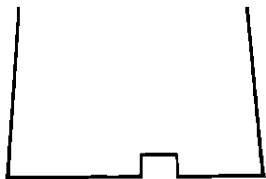

Fig. 35
5. Before installing the new stylus, be sure it is bent properly by comparing it to Figure 35.